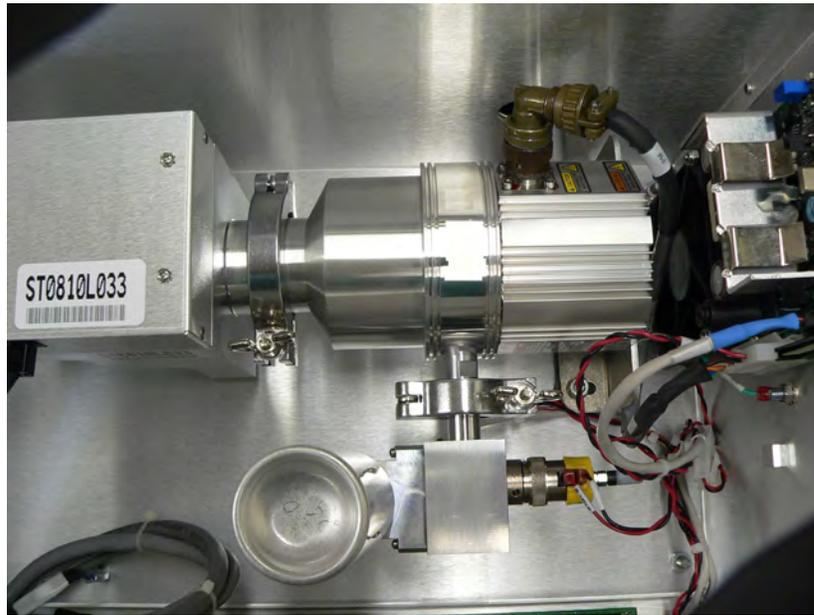

Figure B-18 Calibrated Leak in Place
- Attach the calibrated leak assembly in the orientation shown using the clamp (Figure B-18).